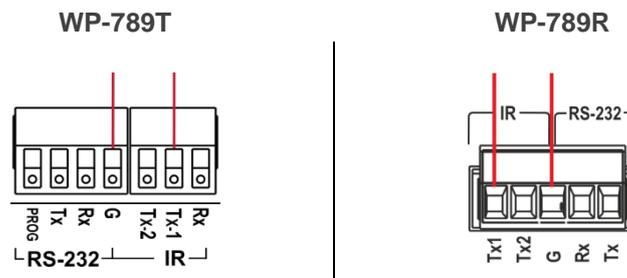

Figure 9: Connecting 38kHz IR Emitter – 38kHz
- Connect the emitter wires to the WP-789T or WP-789R IR terminal block as illustrated in \(Figure 9\).